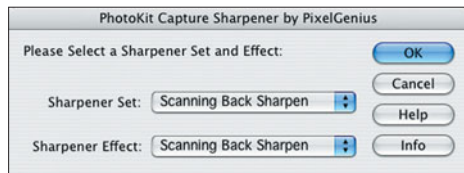

Figure 7.55 For this direct scan capture, the Scanning Back Sharpen option in the PhotoKit Capture Sharpener routine is most appropriate.
4. Apply capture sharpening (see Figures 7.55 to 7.58).